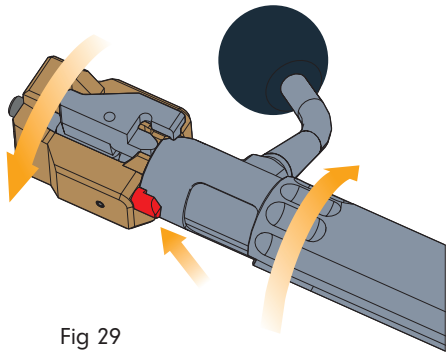

Fig 29
- Depress the bolt location pin with the right thumb and turn the shroud as shown in Fig 29 until the firing pin/shroud assembly can be withdrawn.